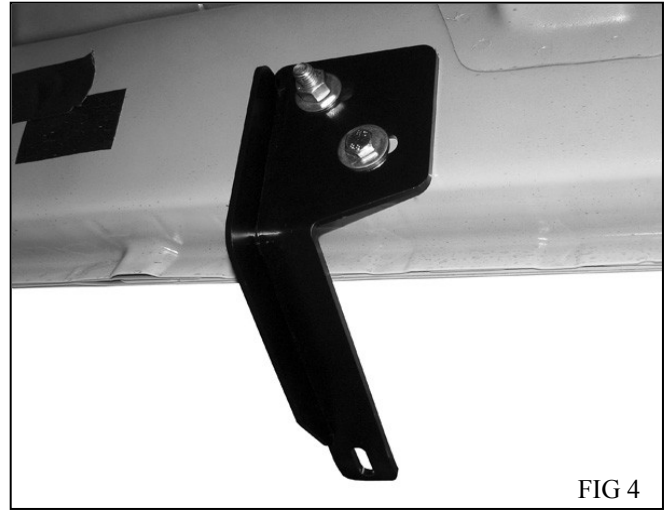

FIG 4
7. Take the drivers side center mounting bracket, position the mounting bracket onto the installed bolt/nut plate. Secure it with (1) M12 lock washer, and (1) M12 hex nut. Do not fully tighten at this time. Rotate the bolt/nut plate until the nut lines up with the remaining hole in the mounting bracket and body. Thread (1) M10 hex bolt, (1) M10 flat washer, and(1) M10 lock washer into the threaded nut. Do not fully tighten at this time. (Fig 4)